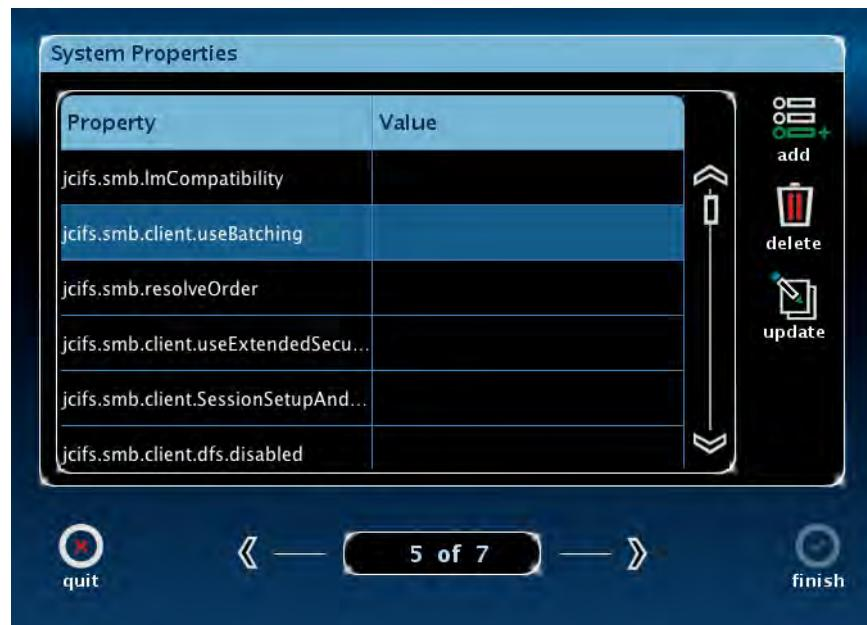

Figure 2-19 System Properties Screen
The **System Properties** screen is displayed showing the current properties, as seen in Figure 2-19.
- e. To delete an existing property, press the desired property shown in the **System Properties** screen (Figure 2-19), then press **delete**.